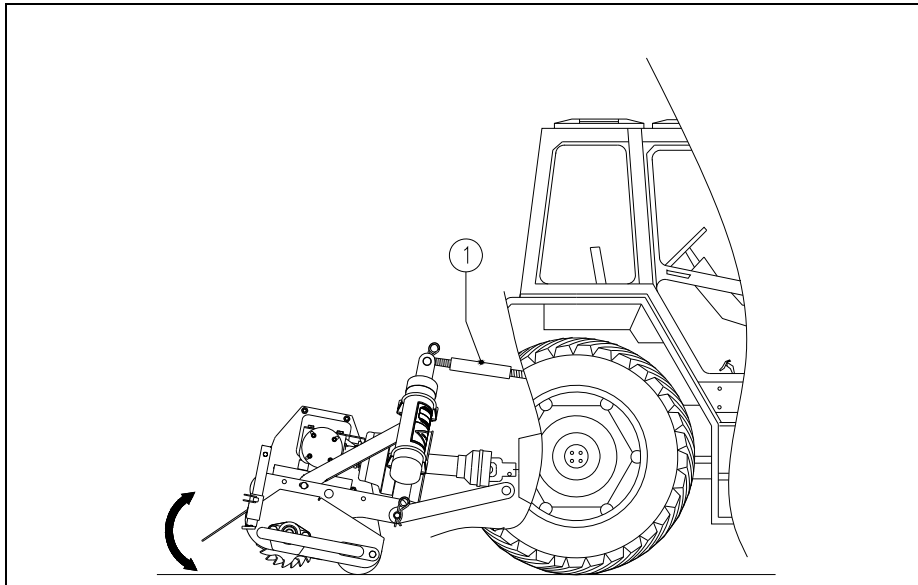

Figure 9
Adjusting the top rod (1) will set the working depth of the machine. Turning the top rod in or out will adjust the working depth (see Figure 9).